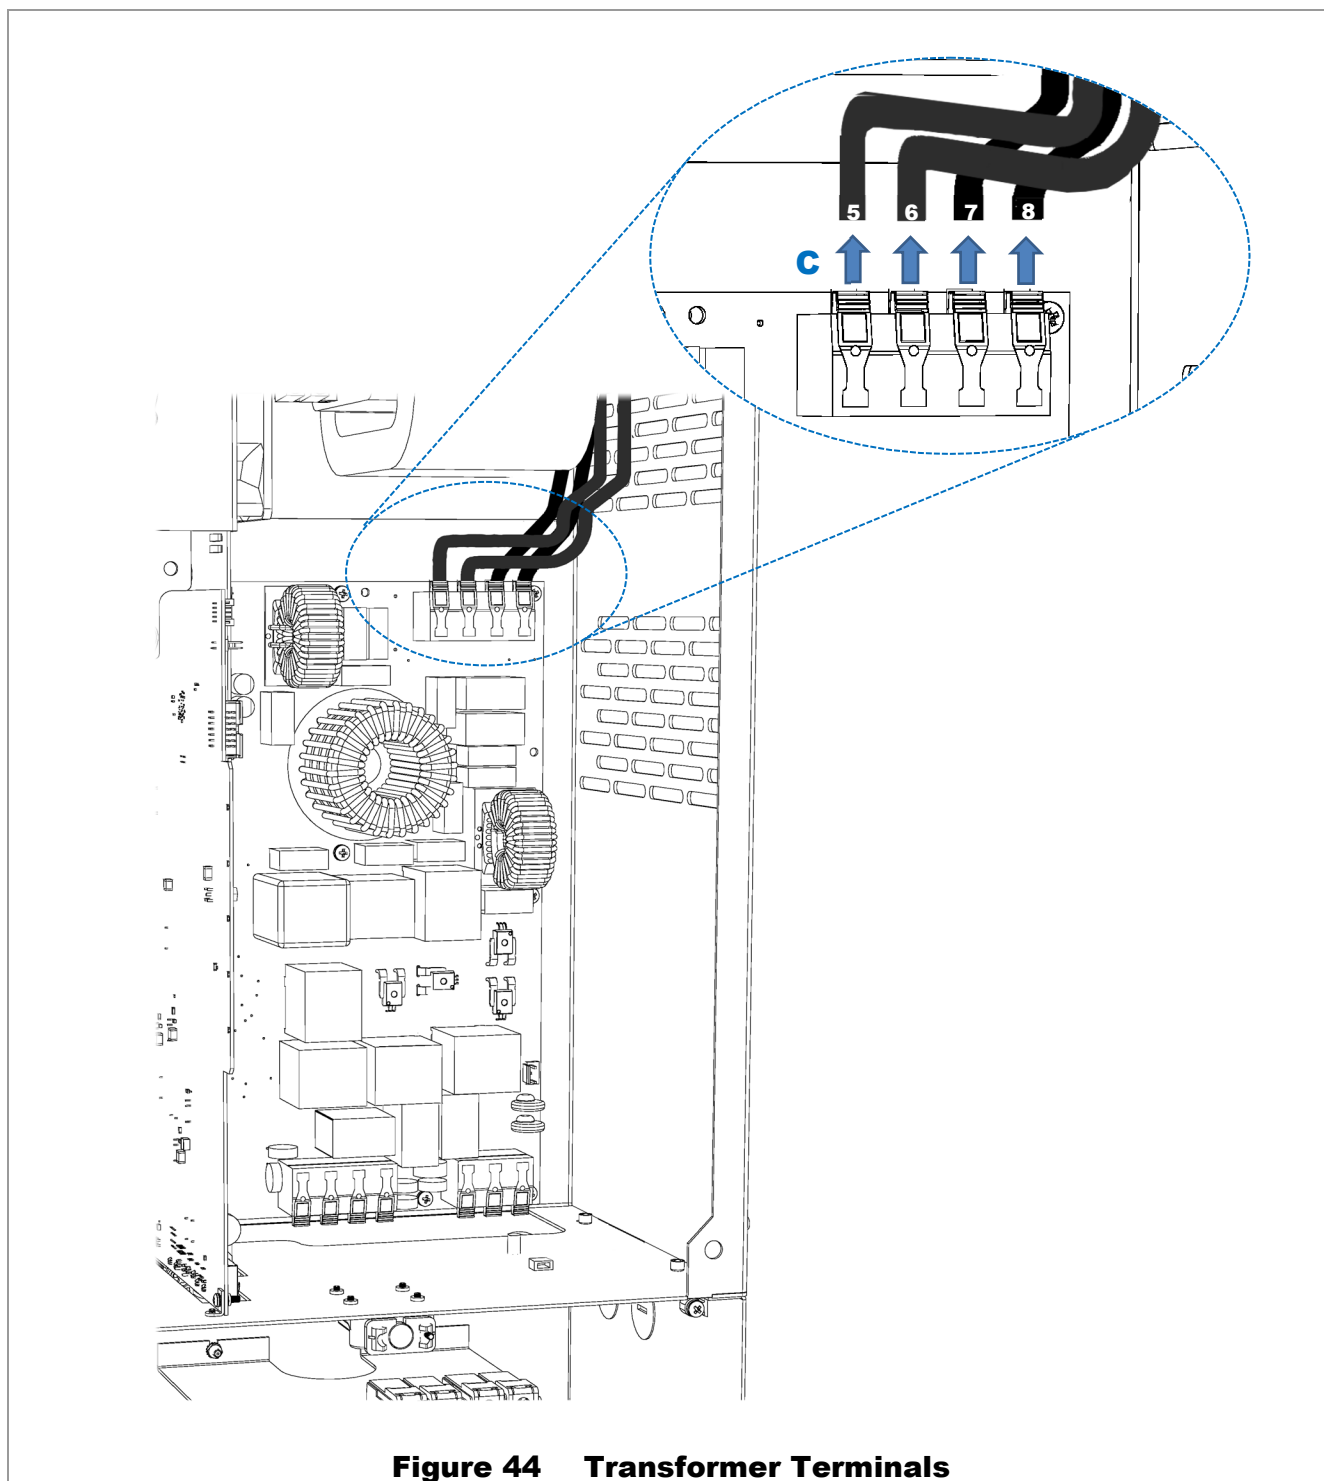

Figure 44 Transformer Terminals
Unclip all wires from the transformer terminals. See **C** in Figure 44.
- ❖ Mark or note the wire positions so that they can be reinstalled correctly. The four wires are marked with numbers 5 through 8. They are installed in the positions shown in Figure 44. The terminals, however, are not marked.
- Replace the transformer wires **C**. Make certain to observe the correct wire positions. See Figure 44 if necessary. Make certain that the wires are fully inserted and that no stray strands are exposed. After latching, tug on the wires to ensure that they are secure.